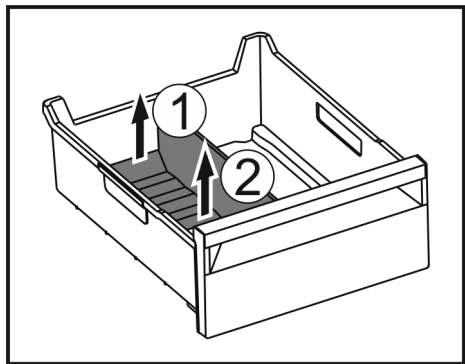

Fig. 109
- Lift the rear part of the ice compartment divider. Fig. 109 (1)
- Remove the ice compartment divider upwards. Fig. 109 (2)